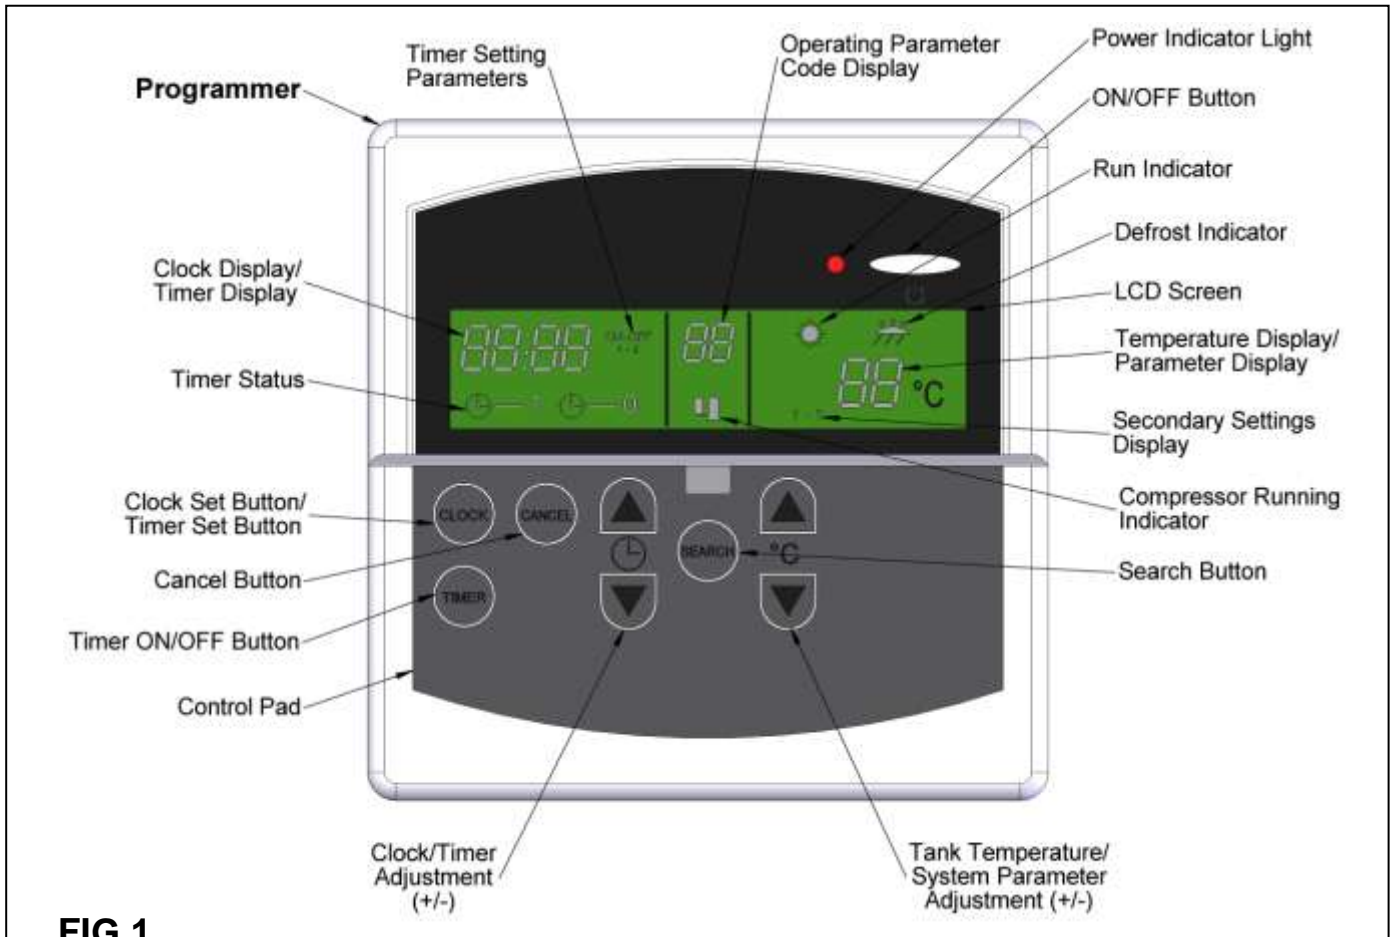

FIG 1
The diagram below (**fig. 1**) shows the programmer layout with the controls uncovered (lift off the protective flap).
In certain circumstances, the unit may enter a temporary lock out mode in order to maintain efficient operation. During such times, a code will appear on the programmer display (**fig. 1**). This is entirely normal and the unit will automatically resume functioning once it has completed its reset cycle.
If the temperature is cold enough for ice to develop on the coil, this may become clogged and cause the appliance to cease operation. Should this occur, the unit will automatically enter defrost mode. This will divert heat from the heating circuit back to the coil until the ice has melted. The DEFROST symbol will appear above the temperature display (see **fig. 1**) during such times.
1. The unit may be running through a process to clear an operating parameter condition. In most cases, this will be cleared automatically, though if it persists, check the programmer display (**fig. 1**) for an operating parameter number. Refer to the guide on **page 25** for full descriptions and remedies.
4. Check the unit has not entered defrost mode (the DEFROST symbol will appear above the temperature display – see **fig. 1**). Should this occur, the heat output from the appliance will be diverted to the coil, until any ice build-up has been removed.